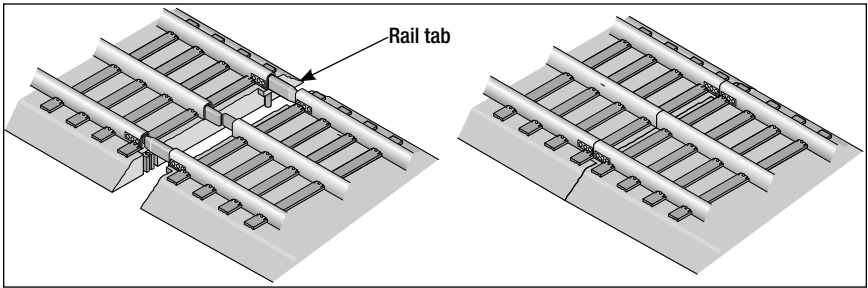

Figure 1. Joining the track sections
With interlocking roadbed and large rail tabs, each FasTrack track section connects securely. Use the Uncoupling Track section and the 5" straight track section to replace a standard 10" track section. You may also place the sections on opposite sides of your track loop to lengthen the sides. Refer to Figures 1 and 2 as you connect the Uncoupling Track section.
3. Press the sections together until the interlocking roadbed snaps into place. Refer to Figure 1.